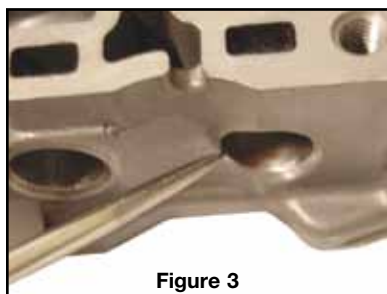

Figure 3
- Use deburring tool or bearing scraper to complete the .020" to .030" wide chamfer all the way around the bore edge where the valve body contour may have caused the factory chamfer to be less than a full circle (**Figure 3**).